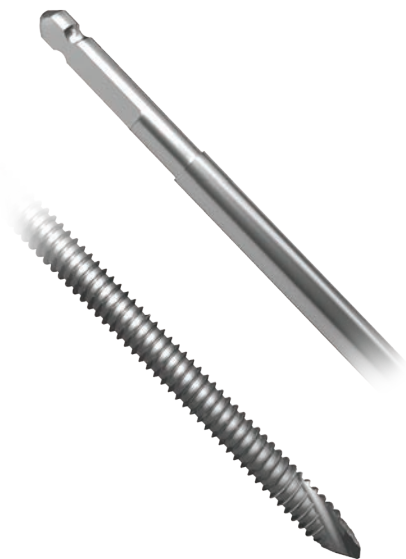

Figure 3
The FastFrame™ External Fixation System – Damage Control comes equipped with four (4) self-drilling, self-tapping 5 mm X 200 mm X 65 mm thread pins. Each pin has an AO quick connect feature that connects to most power equipment (Figure 3).